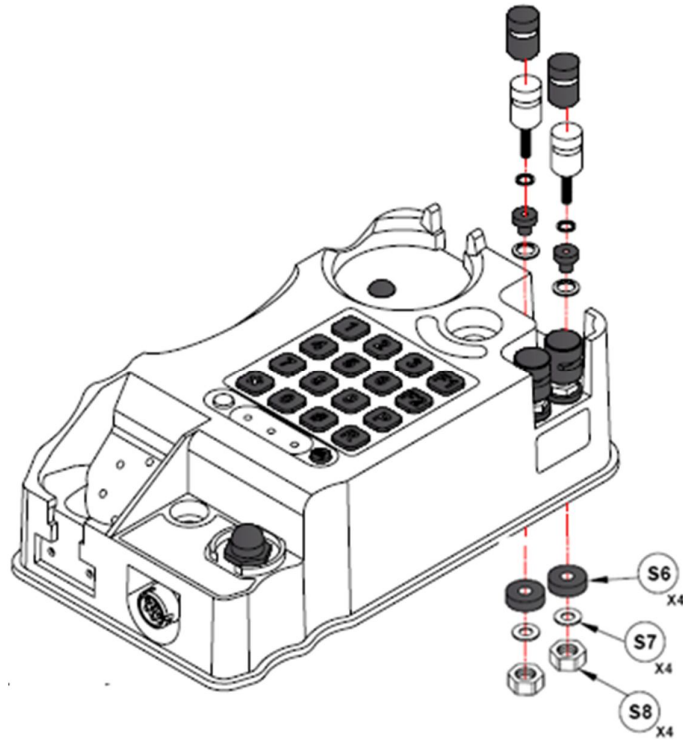

Figure 9 : Re-assembly of Binding post (Line Terminals)
- Remove the plain washer (marked as S7) and bush fixture for binding post (marked as S6) in the Figure 9.